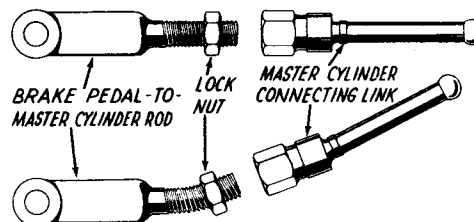

FIG. 4
Excess or increase of brake pedal free travel (3) has several causes: (a) bent brake pedal rod (Fig. 4), (b) bent master cylinder connecting link (Fig. 4), (c) loose adjustment lock nut, or (d) loose master cylinder mounting bolts.